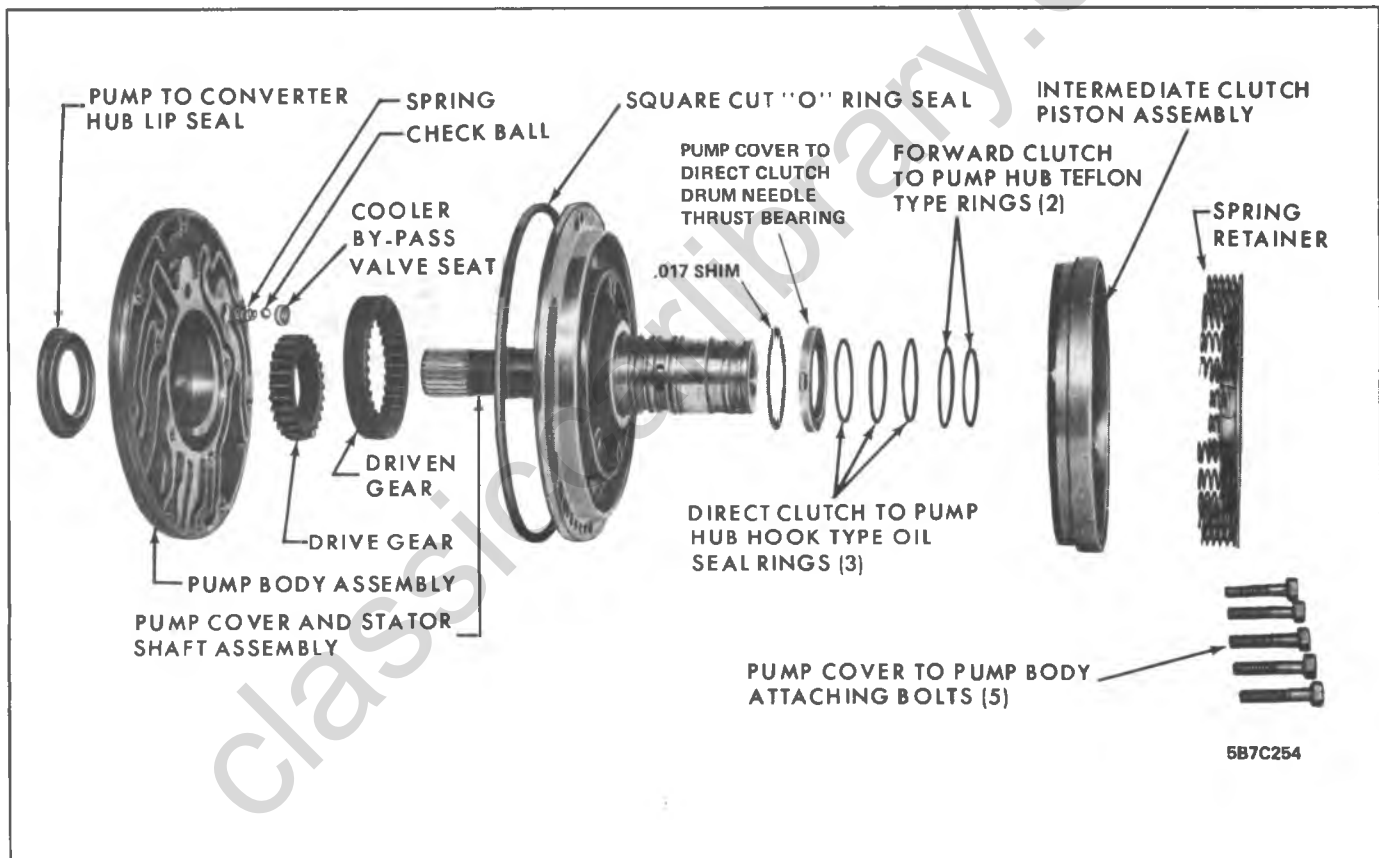

Figure 7A3-66 Oil Pump Assembly - Exploded View
3. Remove intermediate clutch piston inner and outer seals. See Figure 7A3-67.